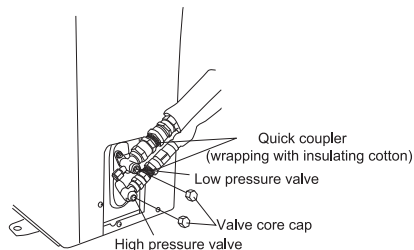

Fig.8
4. Turn on the high and low pressure valve cores with an socket wrench, then tighten the two valve core caps of the outdoor unit (Fig.8).